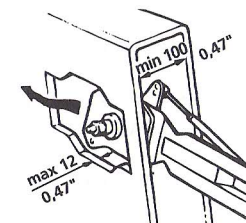

Fig. 11
- Remove the lever and pull out the mechanism through the hole. (Fig. 11)